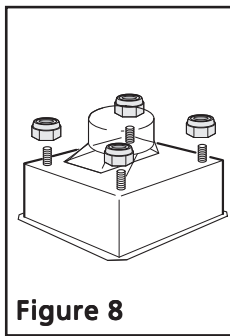

Figure 8
10. Set chimney mounting structure on top of hood canopy. Attach nuts loosely. See Figure 8 and 9.